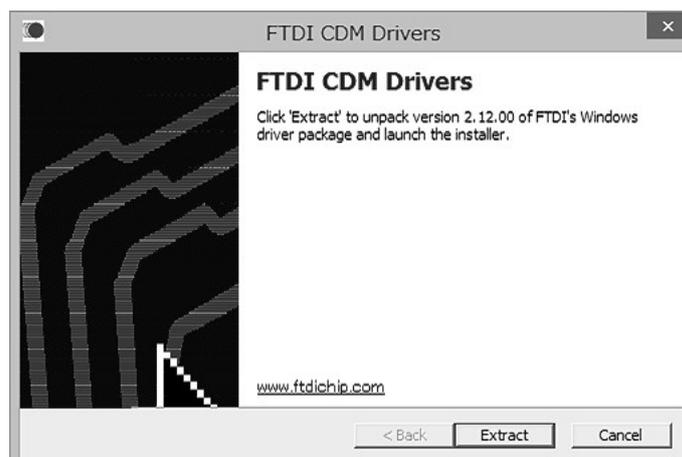

Fig. 8: FTDI CDM Drivers
- (1) Connect the KIT I/F cable to the USB port of the computer.
- (2) When “CDM v2.12.00 WHQL Certified” is executed, setup program starts and Fig. 8. FTDI CDM Drivers screen is shown.